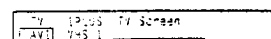

Fig. 43.
- 2 Select TV Screen (input source for the TV screen) or output (output source) with $\Delta+$ or $\nabla-$ and press OK. One of the source items changes colour. (See Fig. 43)